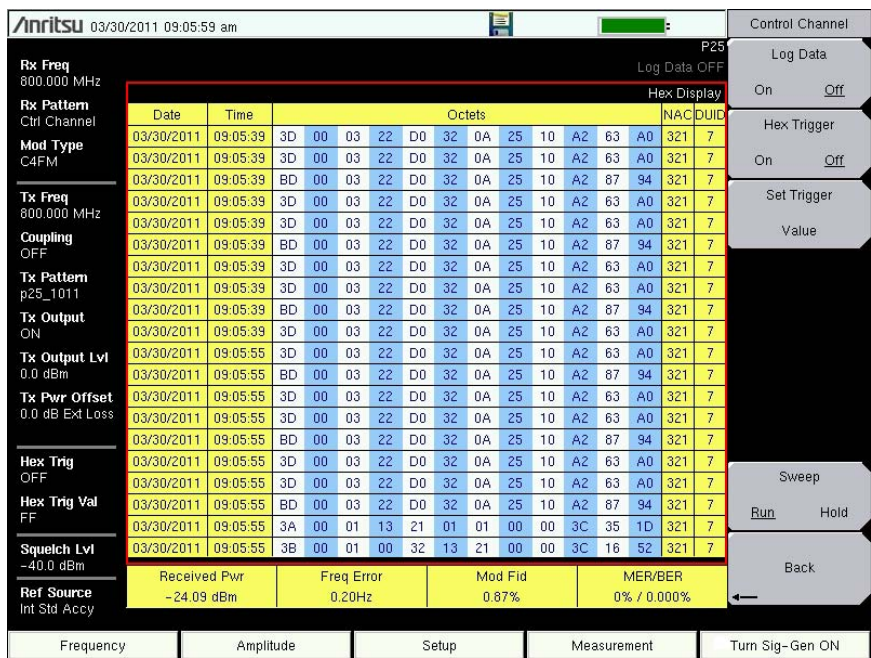

Figure 3-12. Control Channel Measurement
4. Set the Hex Trigger, Sweep and Set Trigger Value (Figure 3-12). The Hex Trigger menu and Hex Trigger Value menu are used to find a specific opcode in the Control Channel data. To set the hex trigger value, press the Set Trigger Value menu. An on screen keyboard will display and with the numbers 0 to 9 and the letters A to F. Enter the two character hex value to search for. After entering the value, press **Enter** to set the trigger value. Press **Esc** to cancel entry or changing the current hex value.